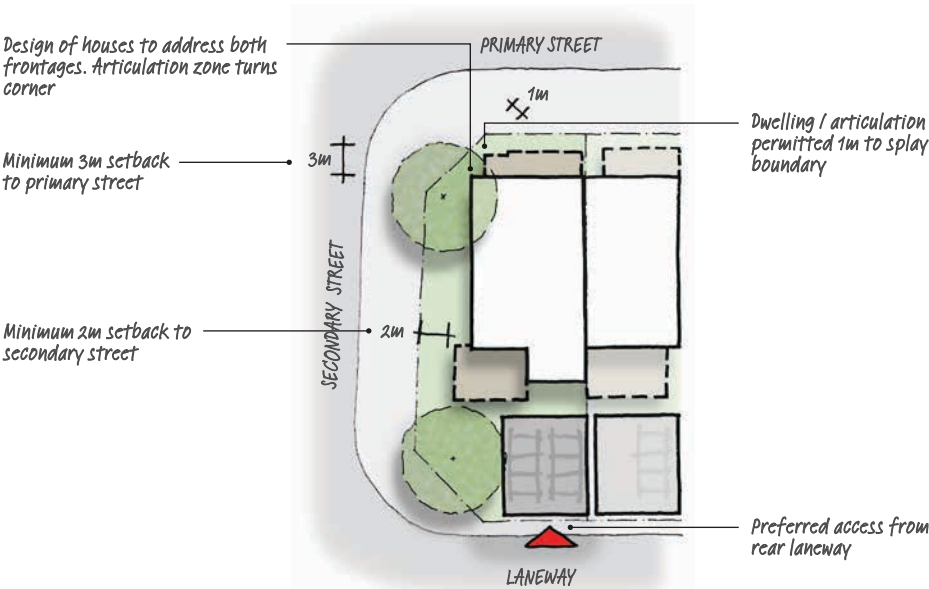

FIGURE 13: Example of Corner Lot and Articulation
- For corner lots, vehicle access and parking is preferred from the secondary street or the rear. Refer to Figures 13 and 14.